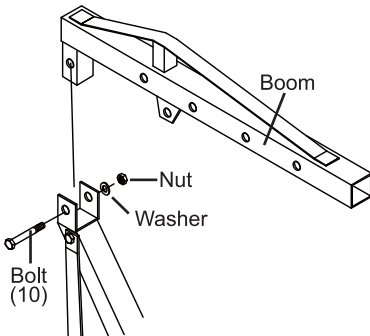

Figure 8
8. Use the Hinge Bolt (10) and Nut (8) to attach the Boom to the top of the Post. See Figure 8.